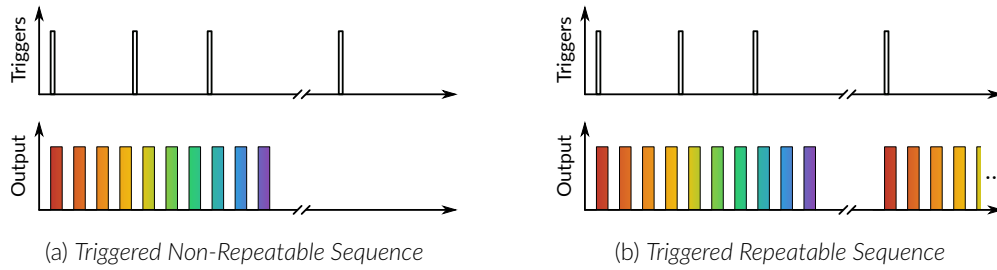

Figure 3.3: Uninterrupted Sequence Mode
- **Uninterrupted:** This mode activates the channel sequence when an input greater than 3.3 V is detected by the BNC input. Following input pulses will be ignored while the sequence is running (Fig. 3.3). When the **Repeatable sequence** checkbox is checked, the sequence will restart with the arrival of the first input pulse after the sequence has finished (Fig. 3.3b). This mode is available for *Triggered* pulse only.